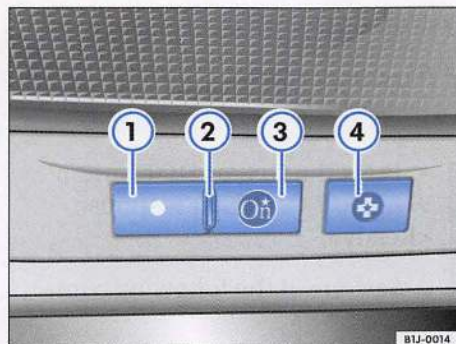

Fig. 9 OnStar services button
⇒ **fig. 9 ③** in your vehicle.